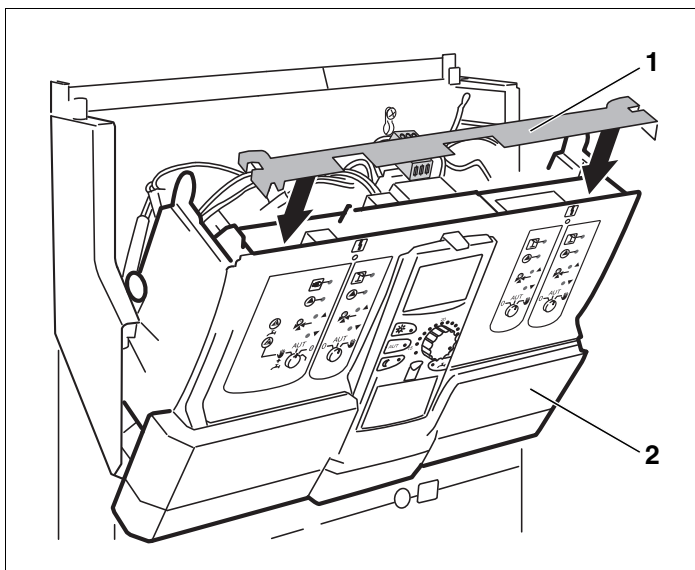

Fig 9 Positioning crossbar
- Position crossbar (→ Fig. 9, [1]) in the recesses and click into place.
- Pivot the device front (→ Fig. 9, [2]) back and click into place.